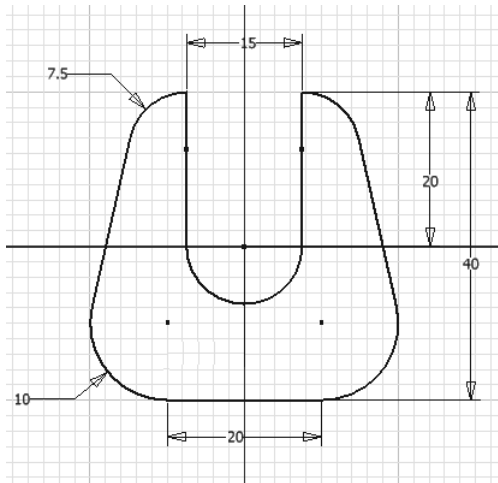

Figure 3-57 Dimensioned sketch for Tutorial 3
- Add the required dimensions and constraints to the outer loop, refer to Figure 3-57.
With this, all dimensions have been applied to the sketch (see Figure 3-57), except the horizontal dimension between the center points of arcs 4 and 6 or arcs 8 and 6. The need of these dimensions depends on the constraints and dimensions assumed while drawing the sketch. If the sketch gets over-constrained, the **Autodesk Inventor Professional** message box is displayed. Choose **Cancel** from the message box. In this case, the dimension has already been assumed.